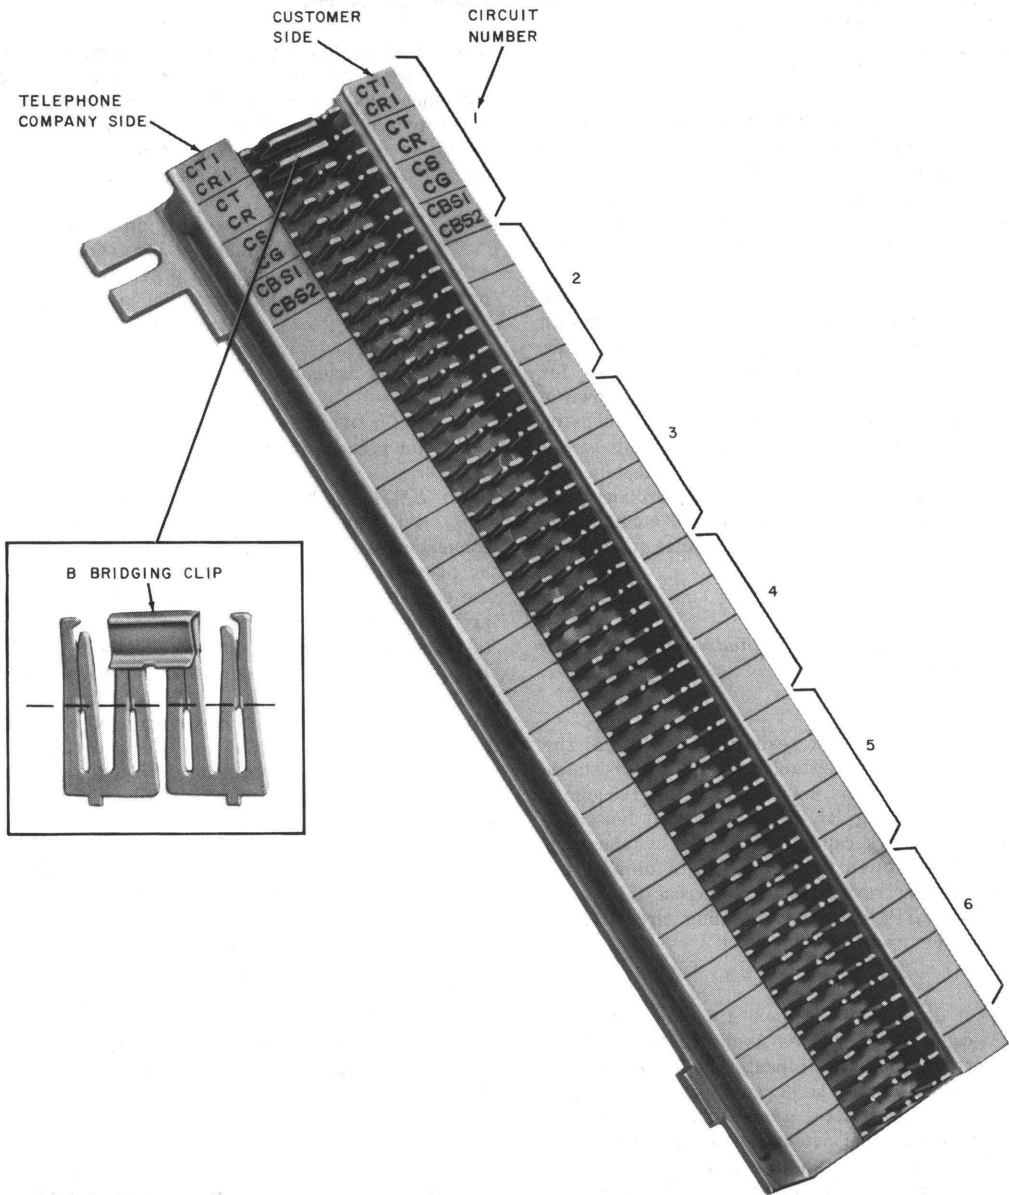

Fig. 5—Typical Interface Connecting Block—PCA CDQ4W
- Unit, Interconnecting, J53050C, List 1 (MD) or List 3—for PCA CDQ4W. Each unit provides four signal isolation (applique) circuits.
- Block, Connecting, 66M1-50 (Fig. 5 and 6).
3.02 Wire the equipment as shown in Fig. 9 and 10. Mount the interface connecting block in a position that will facilitate testing between it and the PCA equipment. Use the 16-pair "D" inside wiring cable or equivalent to terminate the leads associated with the CP equipment on the block. Stencil trunk number and lead designations on designation strip (see Fig. 5 and 6). Make DX signaling unit adjustments as given in 3.03. Install the proper plug-in components in the 44V4A repeater. (When the AGC amplifier is used, see 7.02 for adjustment procedures.) Apply power as shown in Fig. 9 and 10. Before installing bridging clips on the block to connect Bell System wiring to CP wiring, perform the appropriate quick test in 3.08 to determine if each PCA operates properly. If it does not, recheck installation and connections; if necessary, perform the maintenance procedures in Part 5 of this practice.